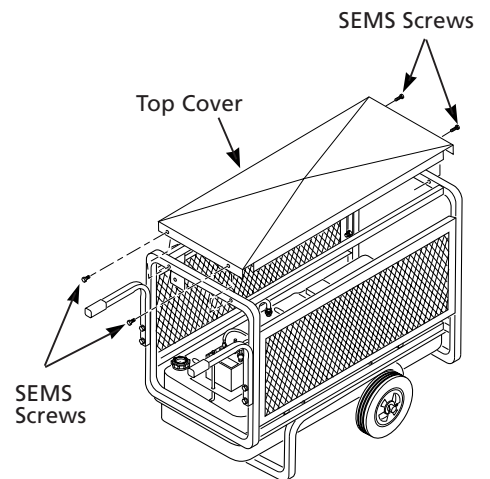

Figure 12 – Attaching Top Cover to Roll Cage
2. Place top cover on top of generator roll cage with notch on control panel side. Use four #8 SEMS screws provided to attach cover to roll cage (See Figure 12).